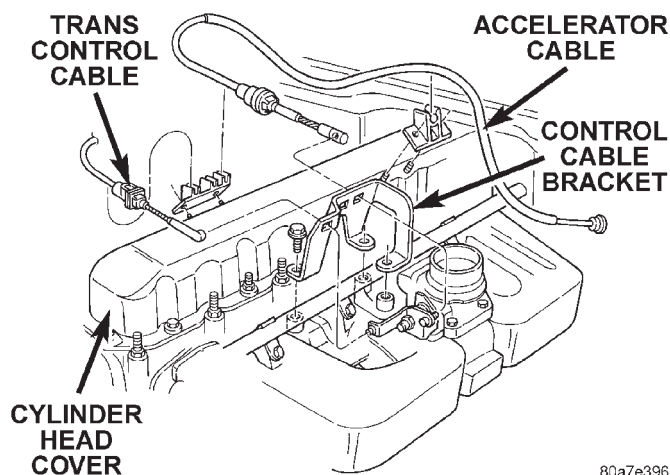

Fig. 32 Engine Cylinder Head Cover
(1) Disconnect negative cable from battery.
(2) Disconnect the Crankcase Ventilation (CCV) vacuum hose from engine cylinder head cover.
(3) Disconnect the fresh air inlet hose from the engine cylinder head cover.
(4) Disconnect the accelerator, transmission, and speed (if equipped) control cables from the throttle body (Fig. 32).